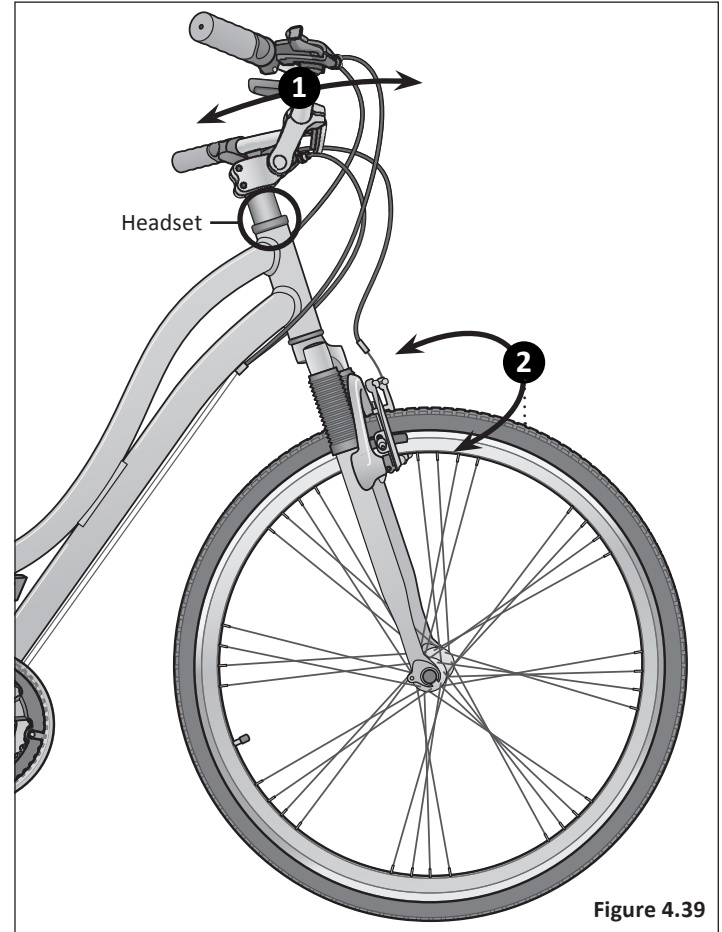

Figure 4.39
- ❶ **Shakiness:** Apply the front brake and push the handlebars back and forth, front to back. Or if the bicycle is on a workstand and the front wheel removed, push and pull on the forks. If you feel a knocking sensation or "clunk" it means the headset is too loose. **Important!** Use care with suspension forks, because the legs may have play in sliders. Grab upper portion of fork. **Figure 4.39**
- ❷ **Stiffness:** Lift the front of the frame so the front wheel is off the ground. The handlebar and wheel should flop to one side or another. If there is drag or binding the headset is too tight.